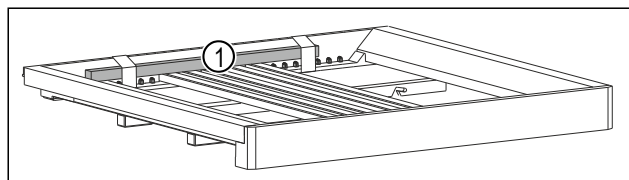

Fig. 49 *
- ▶ Remove the wooden stick Fig. 49 (1).*